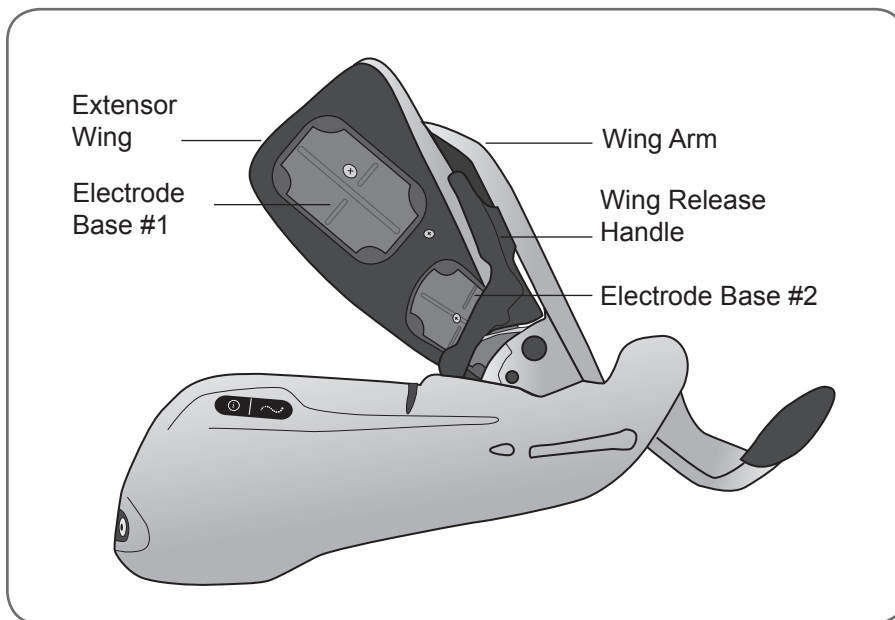

Figure 5-5: Orthosis extensor wing.
- Two electrode bases: #1 and #2. See Figure 5-5.